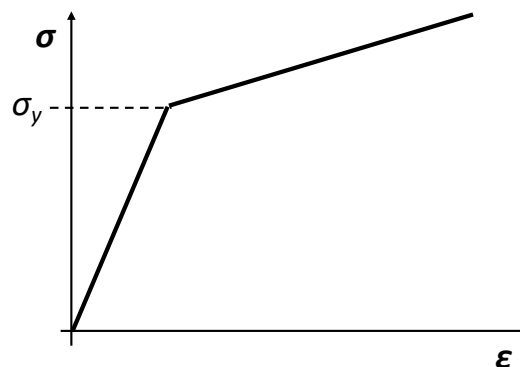

Figure Q3
3. Figure Q3 illustrates which type of material behaviour?